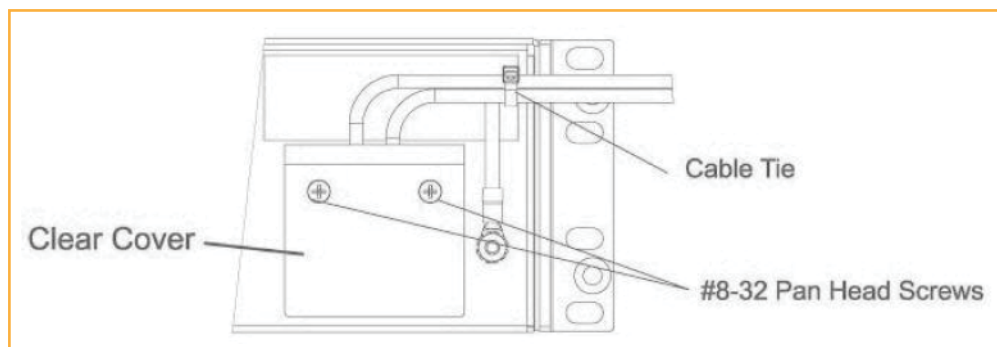

Figure 34. DC Installation
- 4 Attach the clear protective cover and secure it with the two #8-32 pan head screws supplied with the Hub as shown in Figure 34.